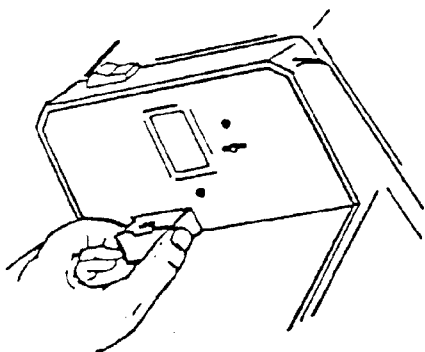

Fig. 8
1. To remove condensate drains, push in on front panel just under drain and pull down with fingers (see Fig. 8).